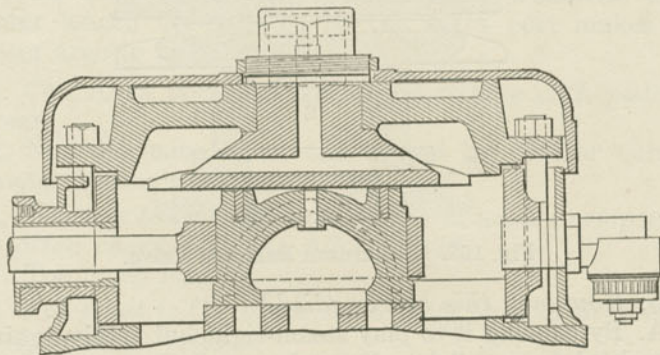

Fig. 156. Allen Balanced Valve, Pennsylvania Railroad Engine, Class "O." Central Lengthwise Vertical Section.
*A. Yes; in Figs. 156 and 157 such a valve is shown.*